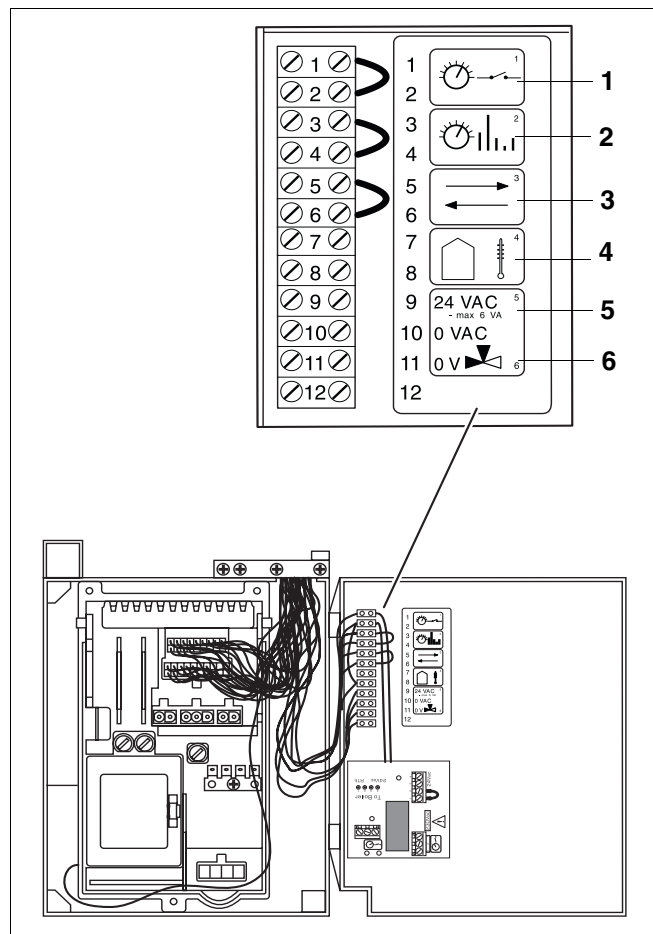

Fig. 87 Checking the controller-device connections at the boiler
- Terminals 1 and 2 should not be wired in any way. The unit is supplied with a dummy connector between terminals 1 and 2 (fig. 87). The DC voltage at terminals 3 and 4 should be approx. 11.5 V. If this is not so, the UBA or the cable harness is defective.
It is possible, in order to limit the source of errors, to disconnect the ModuLine from the boiler (bridge required at 3 and 4) and to install a conductor bridge at 1 and 2 (fig. 87). The heating and hot-water requirement is then passed via the potentiometer setting of the UBA.